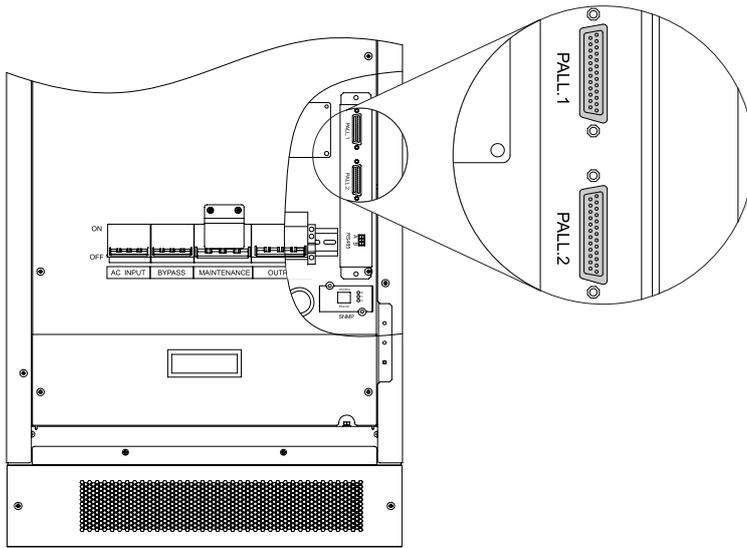
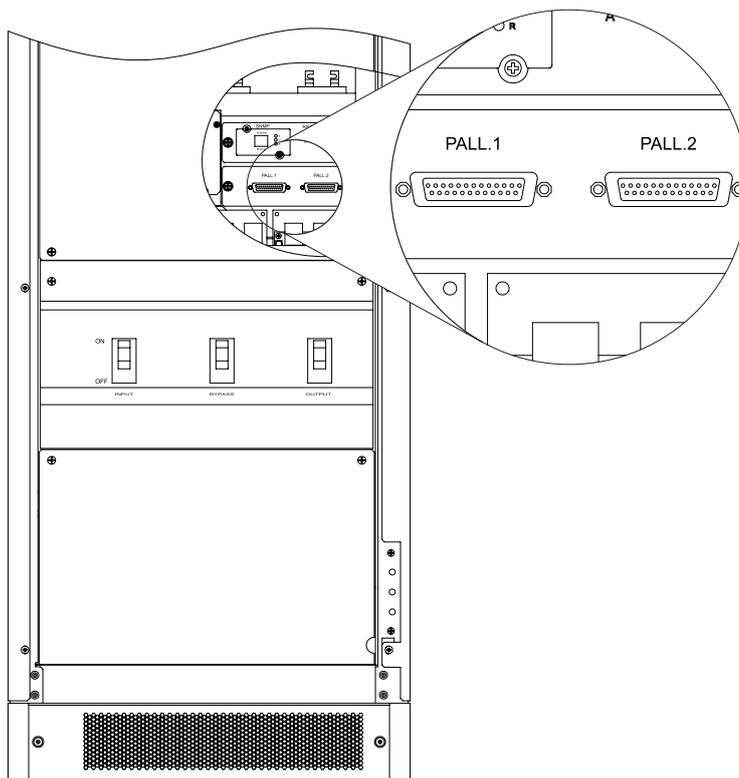
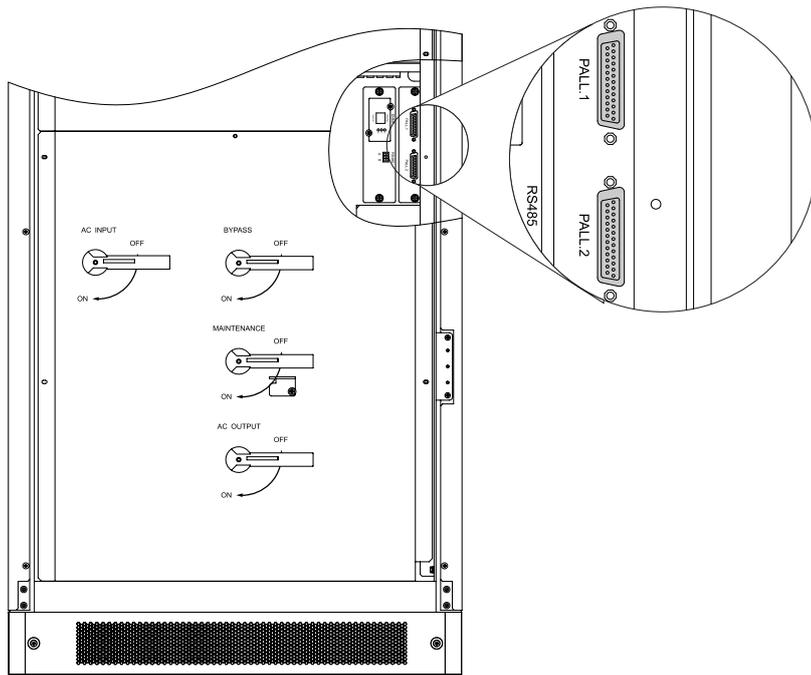

Figure3-29 Parallel port position of Three-Phase (10kVA-30kVA) series UPS with two inputs
Figure3-30 Parallel port position of Three-Phase (40kVA-80kVA) series UPS with two inputs
Figure3-31 Parallel port position of Three-Phase (100kVA-160kVA) series UPS with two inputs
- Step 5 Connect the parallel communication port of each UPS (as shown in Figure3-29, Figure3-30, Figure3-31) by parallel wires (shielding communication wire), and fasten the screws of corresponding ports.